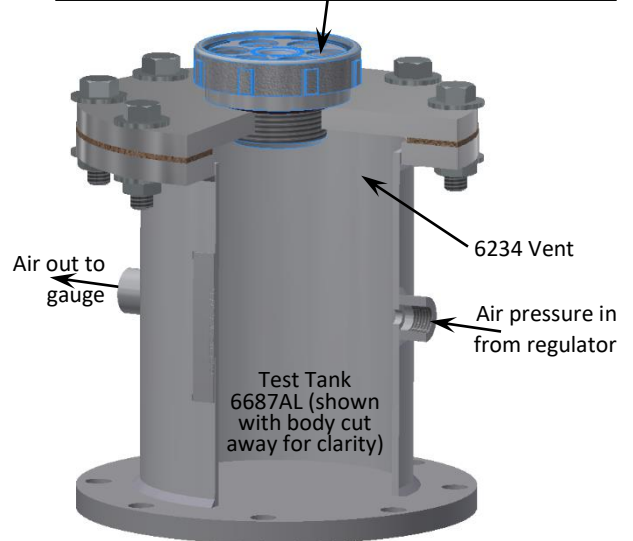

Fig. 4
- 5.4.1 Install vent as shown in figure 4 into test tank.